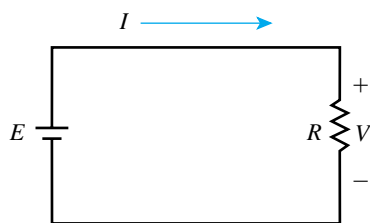

FIGURE 4–33
- Click the Run icon, Figure 4–30. When the results screen appears, click View, Output File, then scroll to the bottom of the file where you will find the answers
PSpice can be used to compute and graph results. By varying the source voltage of Figure 4–27 and plotting I for example, you can obtain a plot of Ohm's law. Proceed as follows.
- Follow the steps detailed earlier to call up the Schematic page editor. In the New Project box, type **Ch 4 PSpice 2** into the Name box. Build the circuit of Figure 4–30 again (right up to the point where you have wired the circuit), except omit part IPRINT.
- Click the New Simulation Profile icon and enter Figure 4–32 in the Name box. Click Create. In the Simulations Settings box, click the Analysis tab and from the Aalysis type list, select DC Sweep. From the Options list, select Primary Sweep. Under the Sweep Variable, choose Voltage source. In the Name box, type the name of your source. (It should be **V1**.) Under Sweep type, choose Linear. Type **0V** in the Start Value box, type **100V** in the End Value box, and type **5V** in the Increment box, and then click OK. (This will sweep the voltage from 0 to 100 V in 5-V steps.)
- Click the Current Marker icon and position the marker as shown in Figure 4–31. Click the Save Document icon to save your work. Click the Run icon. The Ohm's law plot of Figure 4–32 appears on your screen. Using the cursor (see Appendix A), read values from the graph and verify with your calculator.
- For the circuit of Figure 4–33, determine the current I for each of the following. Express your answer in the most appropriate unit: amps, milliamps, microamps, etc.
- For the circuit of Figure 4–33, compute V for each of the following:
9. For Figure 4–33, if $E = 30$ V and the conductance of the resistor is 0.2 S, what is I ?
12. For the circuit of Figure 4–34,
13. For the circuit of Figure 4–34, if the resistor is replaced with one with red, red, black color bands, at what voltage do you expect the fuse to blow?
18. Prepare an Ohm's law graph similar to Figure 4–7 for a 2.5-k Ω and a 5-k Ω resistor. Compute and plot points every 5 V from $E = 0$ V to 25 V. Reading values from the graph, find current at $E = 14$ V.
19. Figure 4–35 represents the I - V graph for the circuit of Figure 4–33. What is R ?